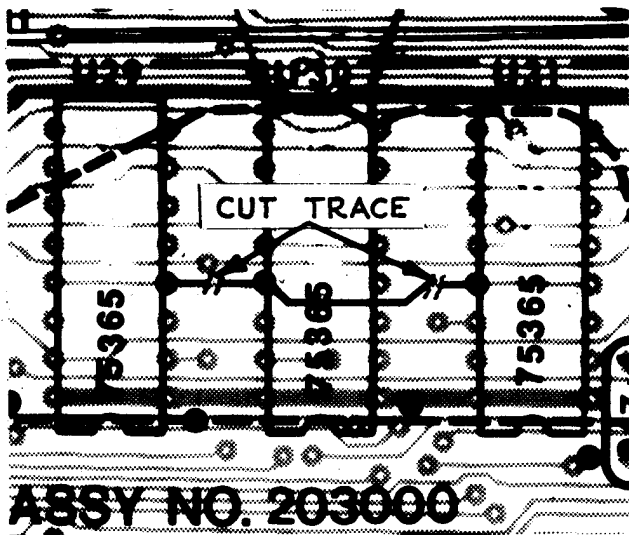
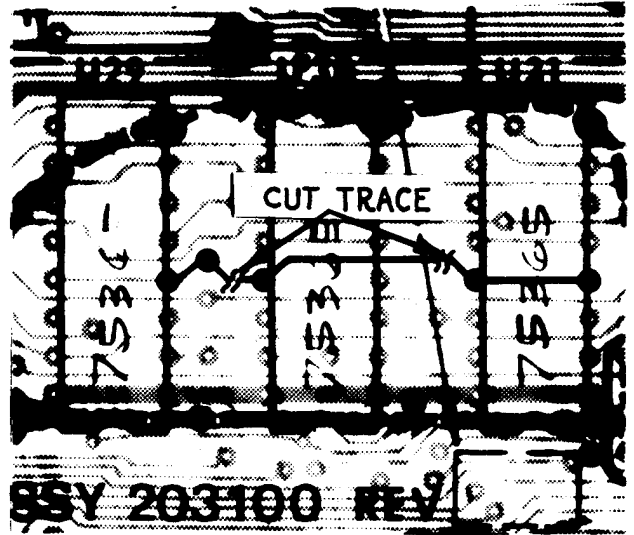

Figure 2
Figure 3
1) On the component side of a 16KRA board, cut the trace that connects U30-pin 13 and U29-pin 4, and the trace that connects U31-pin 13 and U30-pin 13, as shown in Figure 2. On a 32KRA board cut the trace between U30-pin 13 and the nearby feedthrough pad, and the trace that connects U31-pin 13 and U30-pin 13, as shown in Figure 3.